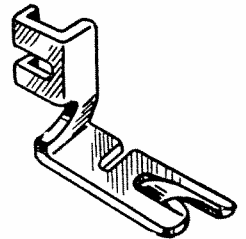

Fig. 44
**Narrow Hemmer:** With needle at its highest position replace regular presser foot with narrow hemmer (Fig. 44) being sure to tighten it securely in place. Set A-P lever in the P position and zigzag stitch width control at off for straight stitched hem or at number 3 for zigzag stitched hem. Set stitch length control to suit.